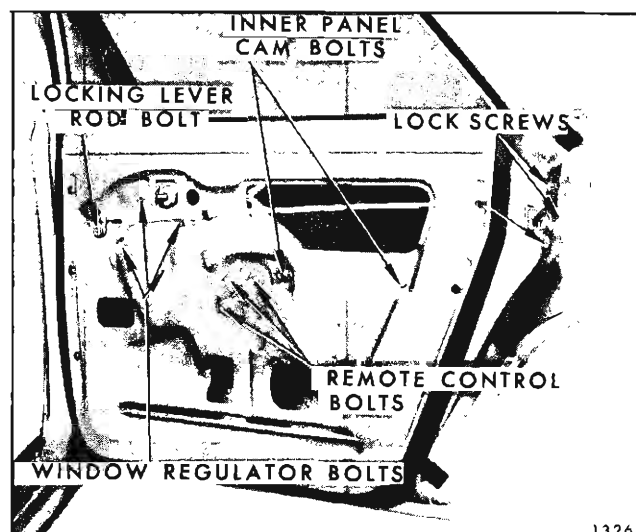

Fig. 2D40—Rear Door Hardware
3. Remove inside locking rod assembly attaching bolt and washer and detach connecting rod from clip on inner panel (See Fig. 2D40).